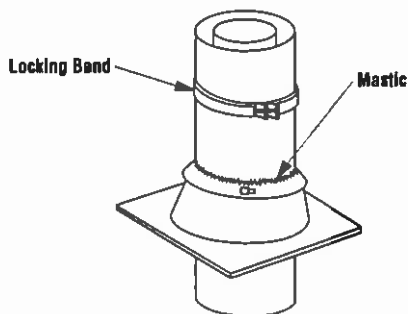

Figure 38
Step 8. The standard FireCraft FTF8 roof flashing assembly includes a storm collar. Slide storm collar over outer chimney, align with top surface of flashing, insert storm tab in slot, pull tight and bend tab back over slot. Seal storm collar to outer chimney with roof caulking or mastic around entire circumference of pipe. Also add extra roof caulking where storm collar meets flashing and to the tab/slot area to seal completely against water penetration (Figure 38).
Step 9. FireCraft locking band, Model FL8, may be required if the chimney extends too high above the roof flashing. As a general rule, if the chimney extends more than 6' (1.8 m) above the roof/flashing, the use of locking bands is advisable to strengthen the chimney joints. Align the locking band at the pipe joint. Locking bands wrap around pipe joints equally covering the joints of both pipe sections. Use nut provided and TIGHTEN snugly. Do not over tighten as this might damage chimney section (Figure 38).